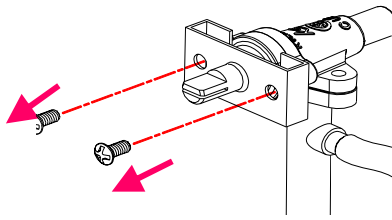

Fig.11A
Refer to Fig. 11A – Pick up the HVR and hold the Gas Valve in your hand and UN-SCREW the (2) M4x6 screws.